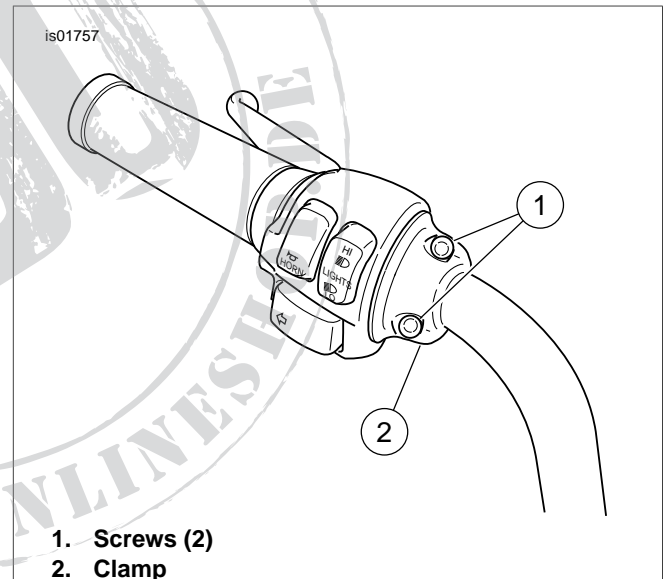

Figure 1. Remove Lever Clamp
3. See Figure 1. Using a T-27 TORX driver, remove two screws (1) and lever bracket clamp (2).